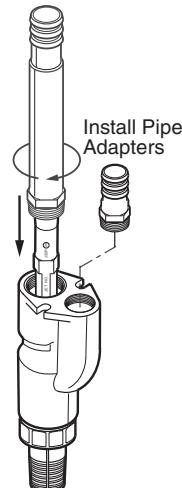

Figure 6
7. Wrap 1-1/2 turns of Teflon tape onto the threaded end of the pipe adapter. Thread the long adapter (furnished) into the ejector discharge port (slide it over the venturi to install it). Tape and install a short adapter (not furnished - purchase locally) in the drive port (See Figure 6). The adapters must be tight - if the assembly leaks, the pump will not lift water from the well.